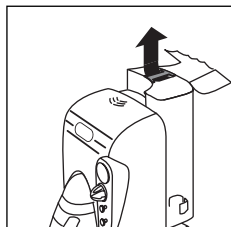

fig. 4
- Lift the water tank lid and remove the tank (fig. 4)